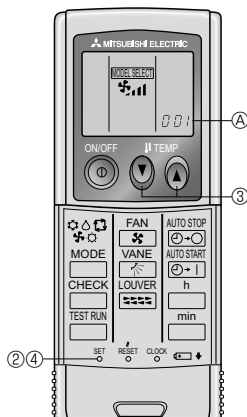

Fig. 6-3
2) Setting (Fig. 6-3)
- ① Insert batteries.
- ② Press the SET button with something sharp at the end.